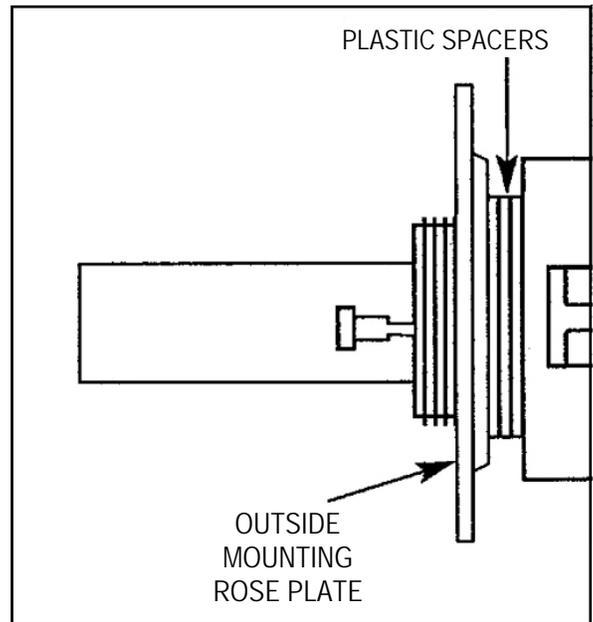

FIG. 9: ADJUST DOOR THICKNESS
- Lever Catch not fully engaged. Lock is not centered on door. Door too thick. (See Fig. 9).